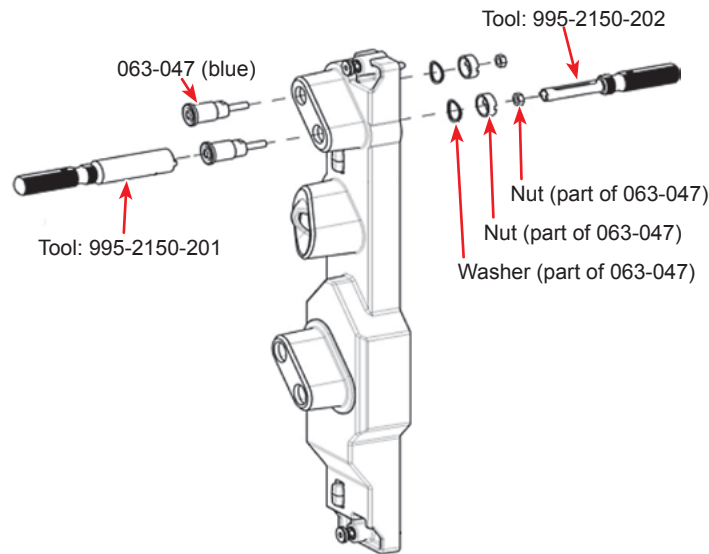

Figure 3-83 Coag Connectors Removal
- 61.5 Remove nuts and washers securing two banana jacks to panel housing using fixtures/tools 995-2150-201 and 995-2150-202 shown in Figure 3-83.